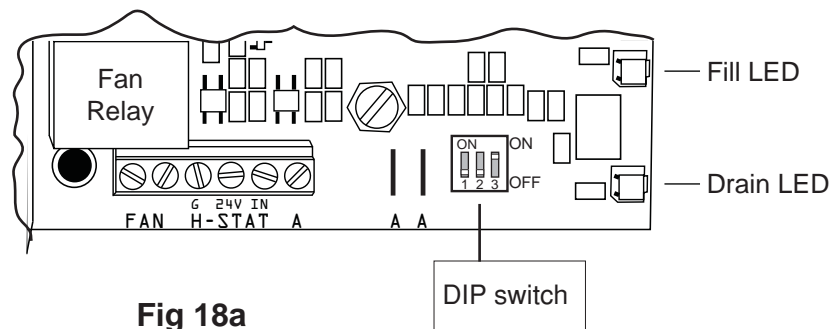

Fig 18a
18.5 Adjusting the DIP switches, located on the lower right corner of the circuit board (see Fig 18a), will change how the humidifier determines automatic tank flushes. The humidifier will completely drain and refill with fresh water after a set number of "refill cycles". **Every time the unit replenishes the tank while producing steam is counted as one cycle.** The table below shows how to set the DIP switches in order to make the unit flush the tank at different intervals. To keep deposits in the tank to a minimum, by default the tank will flush every 30 cycles which equals approximately 5 hours of operation.